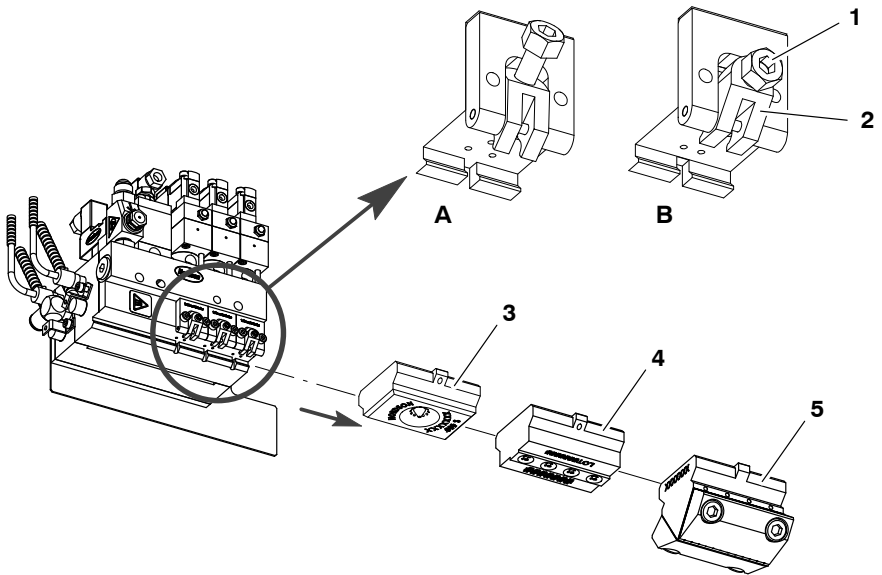

Figure 14: Nozzle retaining clamp in open (A) and closed (B) positions
See Figure 14.
2. See Figure 14. Inspect the nozzle O-ring, replace if necessary, and ensure that the O-ring is lubricated and properly positioned in the O-ring bore.